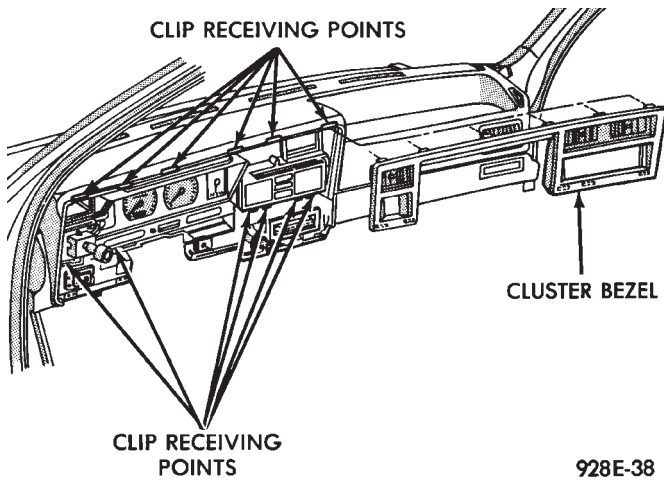
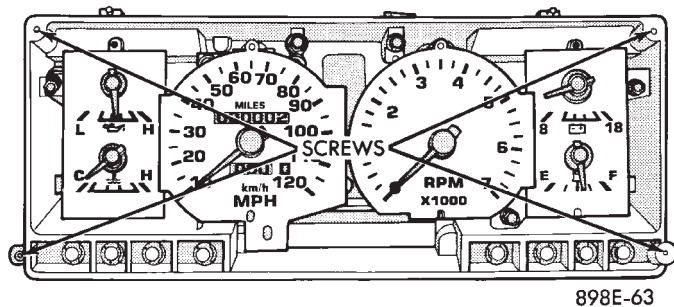

Fig. 10 Cluster Bezel
Fig. 11 Cluster Mask and Lens
(2) On tilt steering column vehicles, adjust tilt range to lowest position.
(3) Pull cluster bezel rearward to disengage 11 clips (Fig. 10).
- (1) Remove cluster, radio and rear window defogger bezels (Fig. 10).
- (2) Remove four cluster to panel screws.
- (3) Pull cluster assembly rearward. Vehicles with column shift use care to not damage PRNDL guide tube.
- (4) Remove four screws holding the cluster mask to cluster housing (Fig. 11).
- (1) Disconnect battery to assure no air bag system fault codes are stored.
- (2) Remove cluster bezel (Fig. 10).
- (1) Remove cluster bezel (Fig. 10).
- (2) Remove four screws attaching cluster to base panel.
- (3) Pull cluster rearward carefully, reach behind and disconnect the two harness connectors.
- (4) Carefully rotate cluster and remove the two PRNDL indicator screws.
- (5) Remove cluster assembly.
- (6) For installation reverse above procedures.